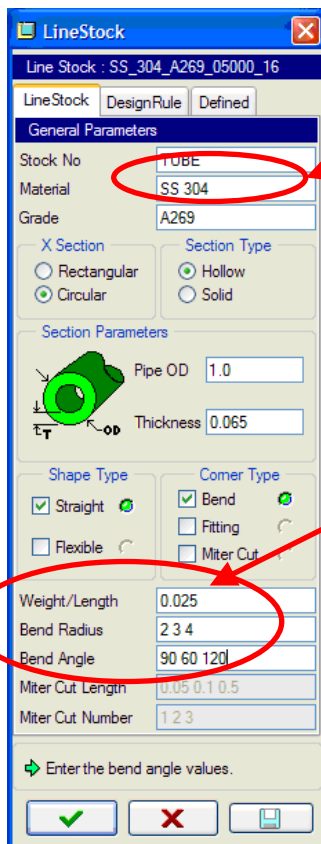

Figure 3
- Select **Set Up > Line Stock >** and read in a linestock from the library. If a linestock is not available, add a linestock to the library. When creating a linestock, ensure that the fields are populated with the correct information. (See Figures 3 & 4)